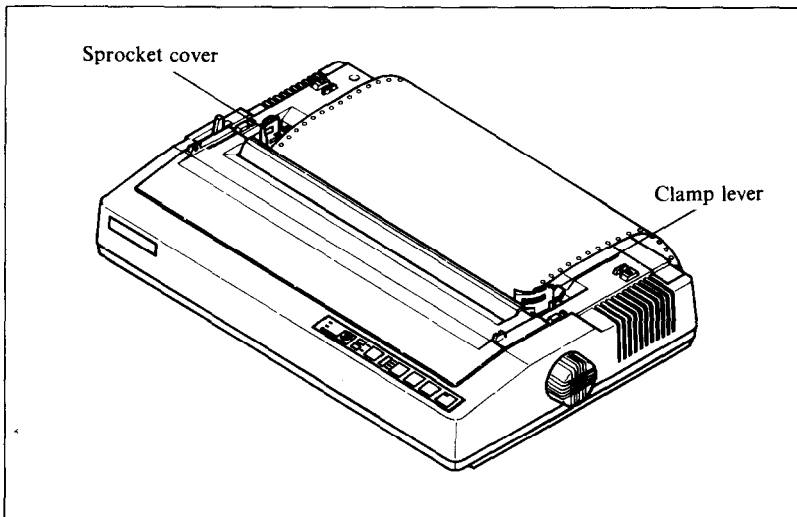

Figure 2-9. Open the sprocket covers to expose the sprocket teeth.
4. Open the sprocket covers, on the right and left sprocket units, as shown in Figure 2-9.